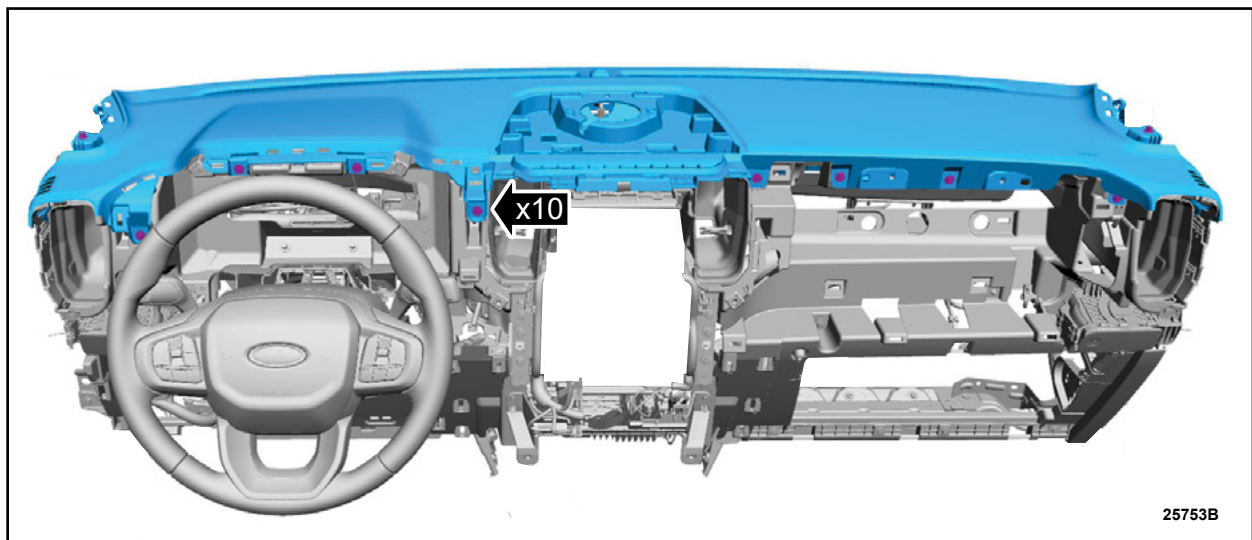

FIGURE 1
3. Remove the bolts, detach the clips and lift the *new* instrument panel upper section up and off of the *new* instrument panel frame. See Figure 1.